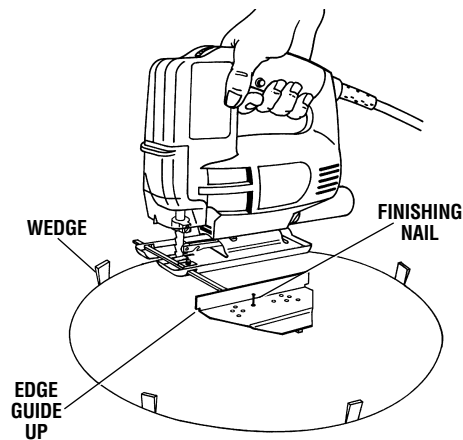

FIG. 16
2. Drill or plunge cut near the circles edge, turn saw off and disconnect the plug from power source (Fig. 16).
Cutting Tip: Cut slowly so the blade will stay straight in the cut. Place small wedges in the cut as shown in Fig. 16, to keep the inner circle from spreading when near the end of the cut.